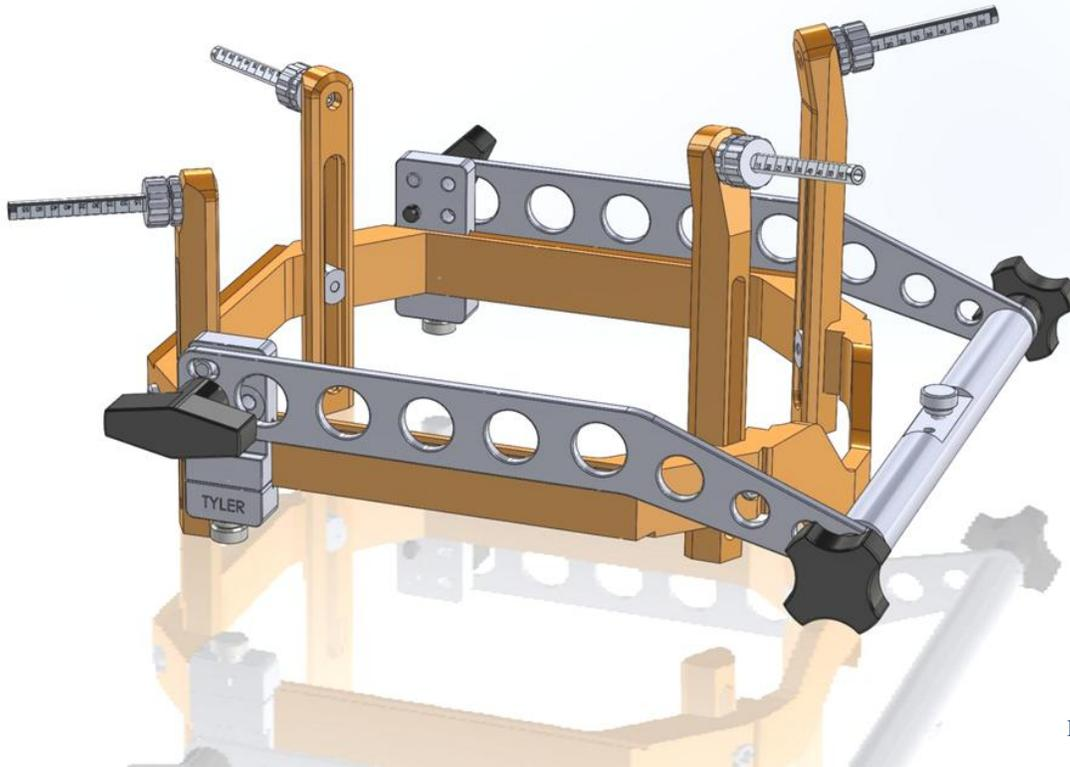

Figure 4
- At this point the combined frame assembly should appear as shown in Figure 4. and is ready to be positioned on the patient